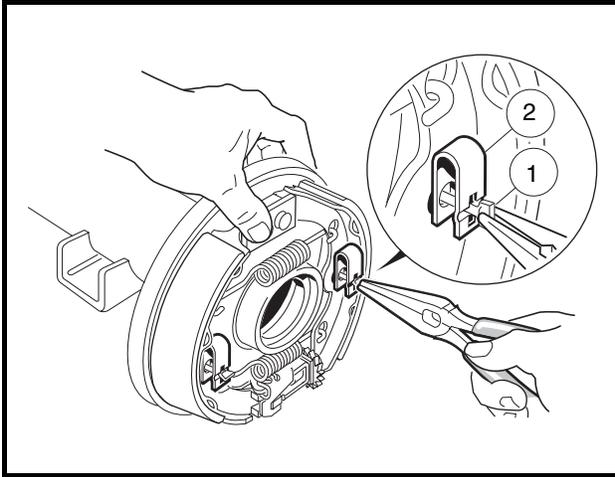

Figure 6-4 Rotate Clip Retainer
6. Using needle nose pliers, rotate the clip retainer pin (1) 90° to remove the shoe retainer clip (2) on each shoe (**Figure 6-4, Page 6-3**). **See following CAUTION.**